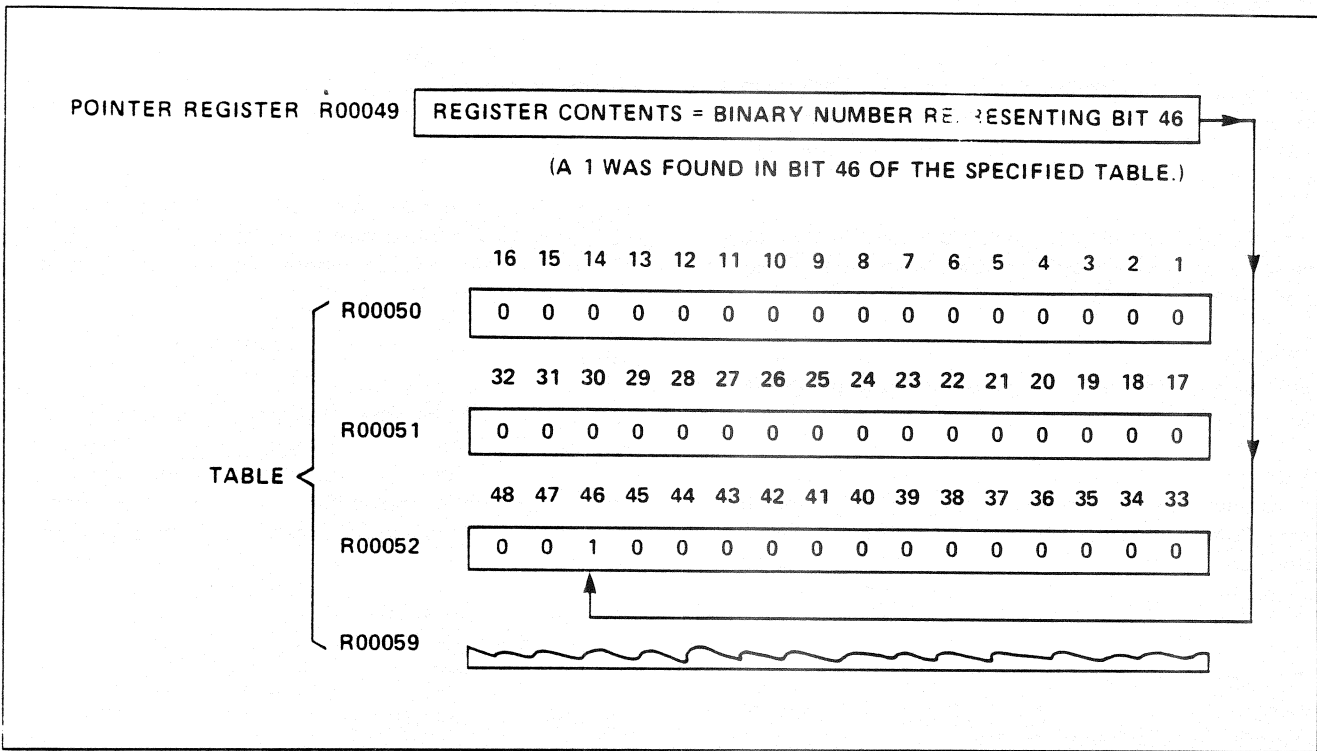

Figure SO-2. Search 1's Example
3. During each ladder diagram scan when the enable circuit conducts, the Search 1's function searches from the current Pointer Register position to the next higher bit number containing a 1, or until all bits of the table have been searched and found to be in a 0 state. (See Figure SO-2.)